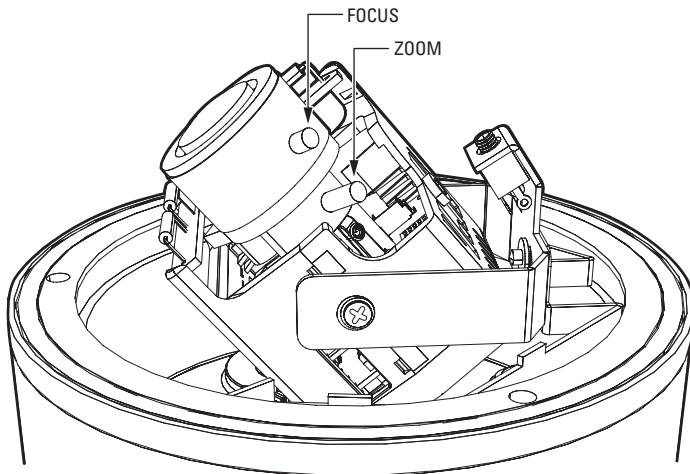

Figure 9. Location of Zoom and Focus Adjustments
1. Select a field of view by turning the zoom adjustment ring clockwise/counterclockwise (refer to Figure 9).